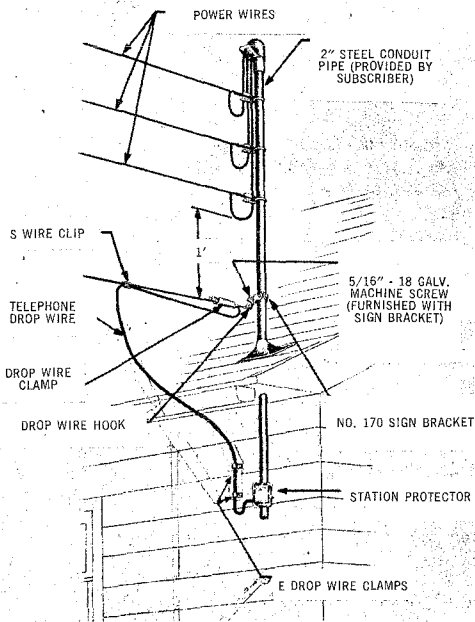

Fig. 14 — 123 Type Protector Installed on Power Stack With 72A Bracket
4.16 Using a 72A Bracket and a Station Ground Wire Clamp, install the protector in the manner described in Para. 4.11 of this practice. Place a 150A Cover over the protector and wires. This method of installation will result in the protector being mounted 90° from the normal position. Place a drip loop in the drop wire to prevent water running into the protector. Locate the protector on the power stack as close as possible to the point of entry into the building to reduce the amount of exposed station wire. (See Fig. 14.)